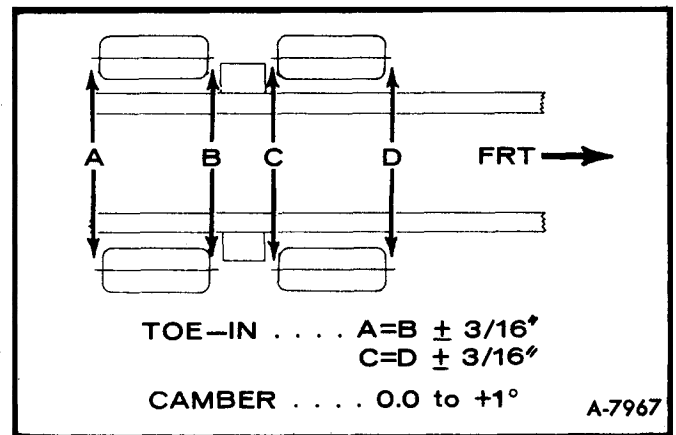

Figure 4—Measuring Toe on Rear Suspension
12. Check rear suspension for alignment and correct toe-in (see figure 4). (Refer also to Section 4A of this supplement.)